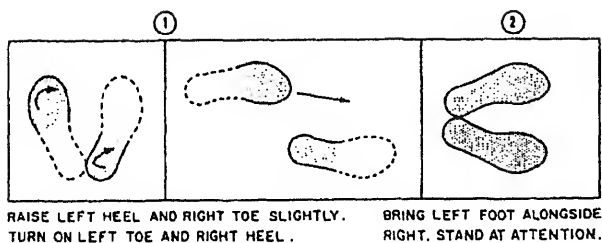

Figure 11-4.—Right Face.
RIGHT FACE: Right face (fig. 11-4) is a two-count movement started on the commands Right, FACE. On the command FACE: (1) Raise your left heel and right toe slightly and turn 90 degrees to the right. Keep your